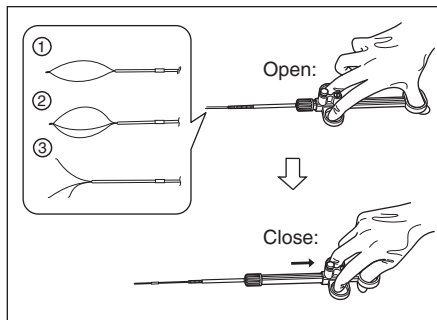

Figure 3.13
1. Pull the slider towards you to withdraw the foreign object retrieval section inside the sheath (see Figure 3.13).